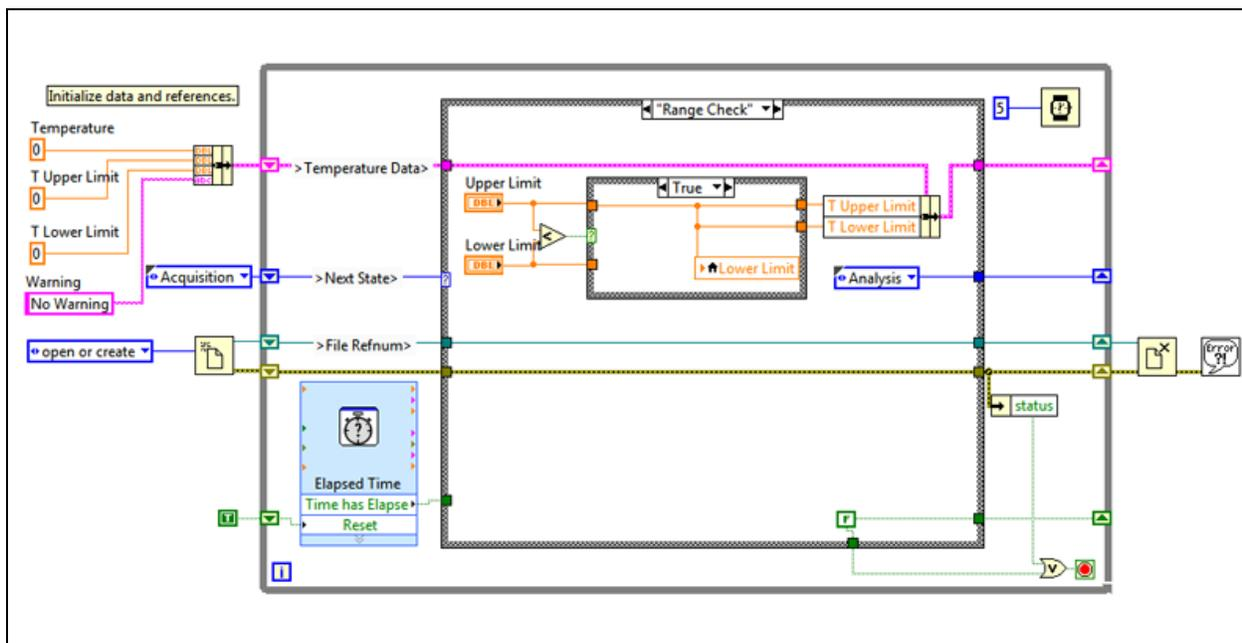

Figure 2. Completed Range Check State-True
5. If the Upper Limit is less than the Lower Limit, use a local variable to write the Upper Limit value to the Lower Limit control, as shown in Figure 2.
- Wire the **Upper Limit** and **Lower Limit** controls to the **Less?** function and the **Case structure** as shown in Figure 2.
- Wire the case as shown in Figure 2.